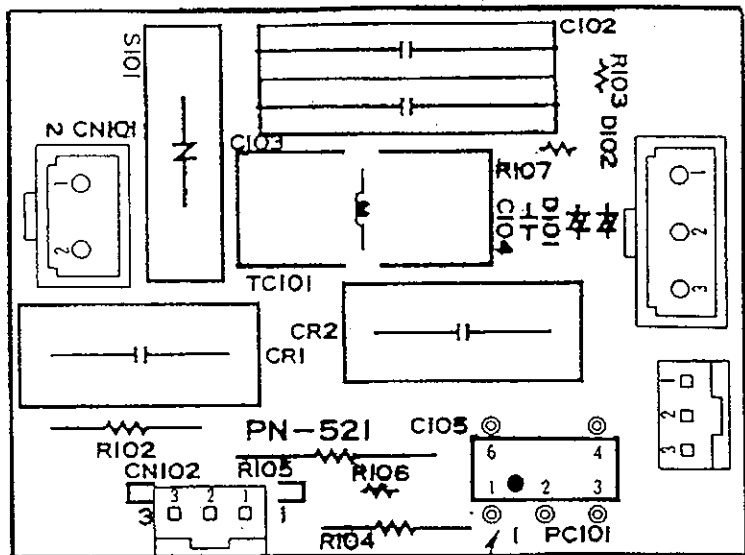

Fig 1
4.5.3 Install as shown on the board as shown (Fig 1)